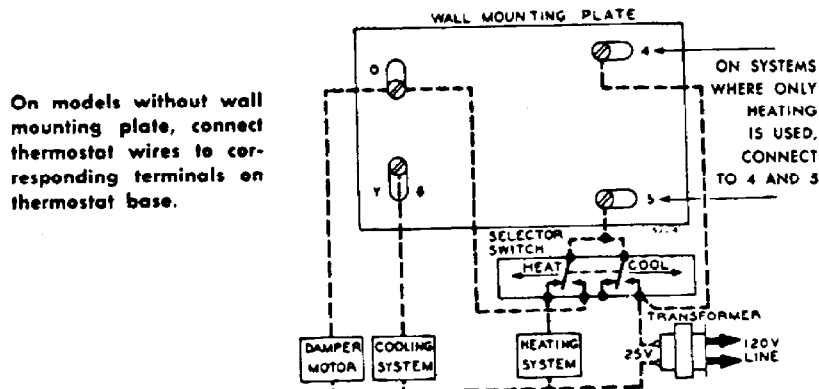

Fig. 3 — Wiring Diagram for Heating-Cooling Models (Without use of Sub-Base)
**Heating-Cooling Models** – Connect as shown in Fig. 3 below.